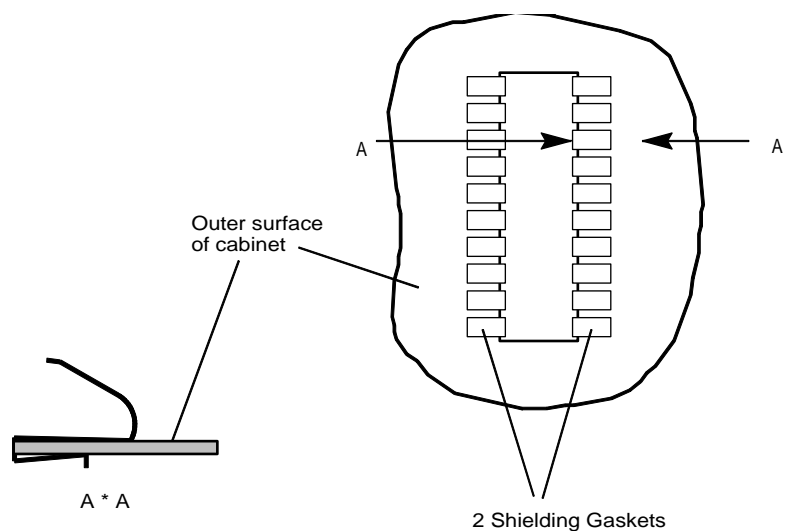

Fig. 4-5 Placement of the Shielding Gaskets
5. Place the shielding gaskets as indicated in Figure 4-5.
- Open the interconnect kit, NTMBN 101 05. Remove (2) of the metal shielding gaskets, refer to Figure 4-5, and install them into the knockout hole on the side of the new cabinet.